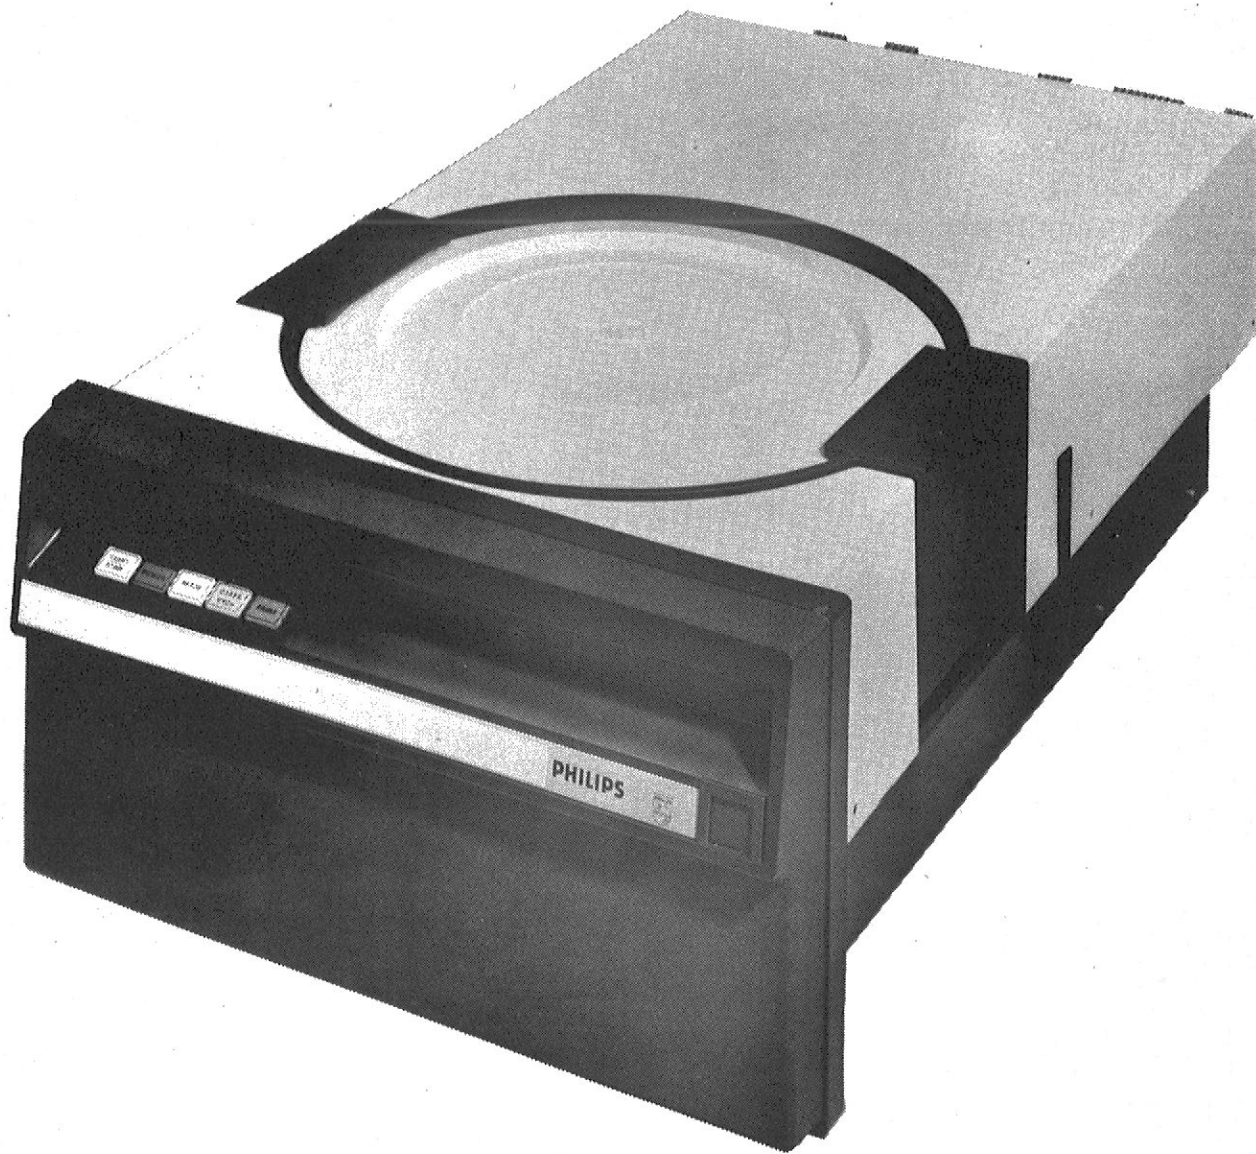

Fig. 1-1 Disk Drive Unit
1.1 GENERAL DESCRIPTION. (figure 1-1, 1-2)